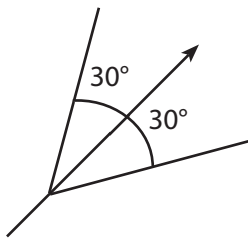
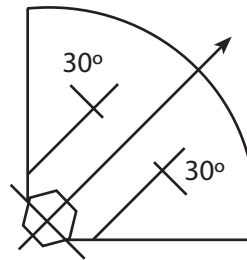

Figure 1. Small burn
Figure 2. Large burn
5. To allow for horizontal dispersion of the smoke, as well as shifts in wind direction, draw two other lines from the burn at an angle of 30 degrees from the centerline(s). For a small burn draw as in **Figure 1**. For a large burn draw as in **Figure 2**.
Figures 1 and 2. Examples of how to estimate smoke plume dispersion for prescribed fire planning.